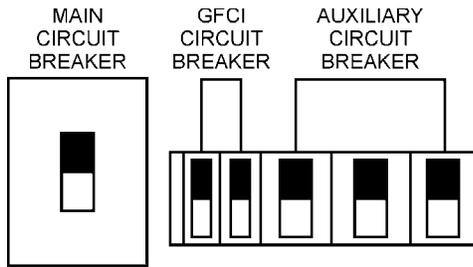

Figure 50. Main, Aux. and GFCI Circuit Breakers (ON)
- Place the **main, GFCI, and aux.** circuit breakers in the **ON** position (Figure 50).